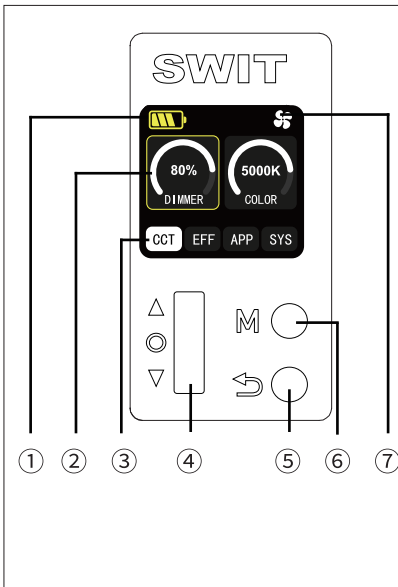

Figure 7 Control Panel
- 5) Press the rotary encoder (Figure 7 ④), and perform firmware update following the path: "SYS" → "Update" → "Yes".
- Press the "M" key (Figure 7 ⑥), follow the path "SYS" → "Firmware Version" to check the device's firmware version. If the version number matches that of the update package, the firmware update is successful.
- 1) Press the back key (Figure 7 ⑤) to exit the current interface, and repeat Step 4 of [Firmware Update Steps] until the update succeeds;